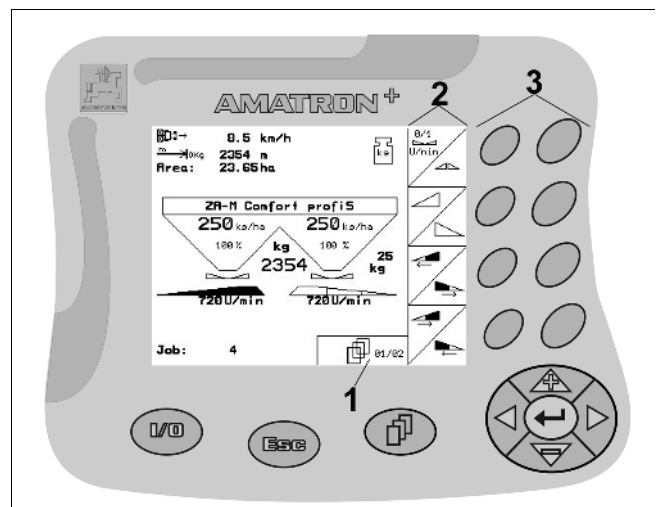
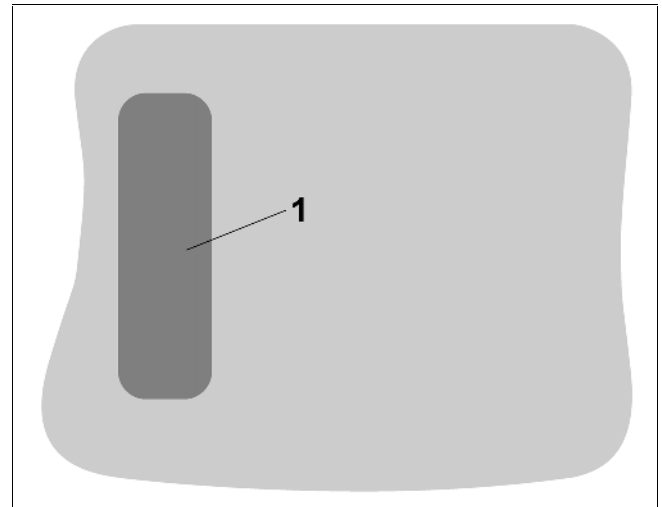

Fig. 9
Fig. 10
-  - Page to other menu pages (only possible when the page symbol (Fig. 9/1) appears in the display)
When the shift key  on the rear of the implement (Fig. 10/1) is pressed additional function fields (Fig. 11) will appear in the operational menu / job menu and the coverage of the function keys (Fig. 9/3) will change accordingly.